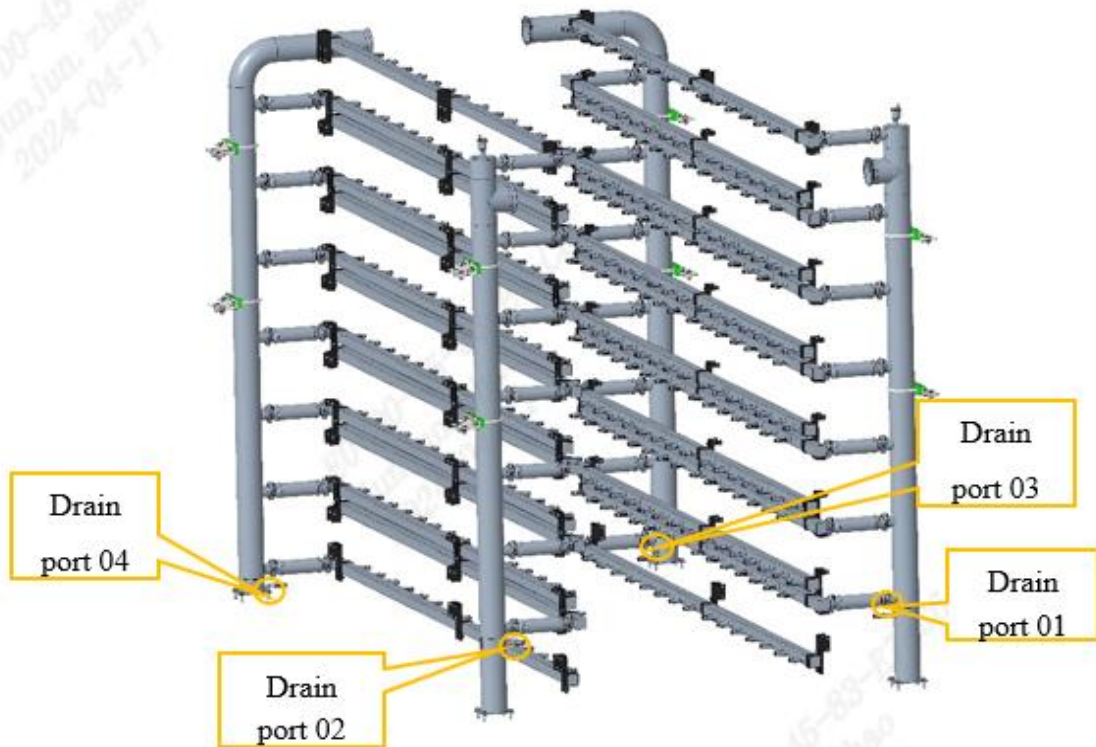

Figure 7-4 Water distributor drain port
g) and Figure 7-4 Water distributor drain port